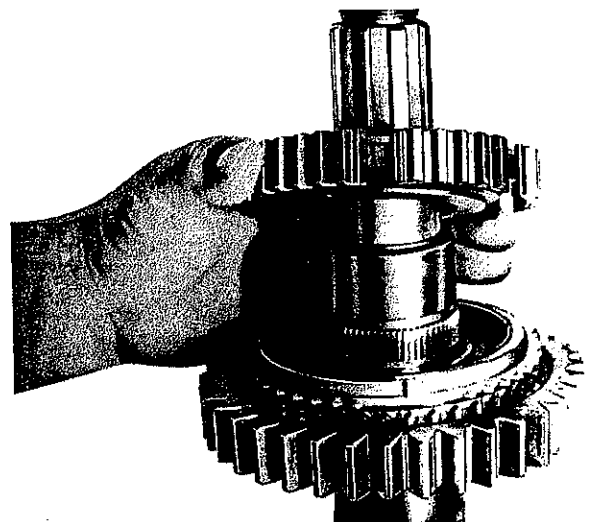

Fig. 25
3. Insert circlip (426) into groove of synchronizer 1st - reverse gear (424) and turn in such a manner that the notched pin (425) can be pushed into hole provided.
4. Heat synchronizer (424) to approx. 80°C and push on splining of shaft as shown in Fig. 25. The recess for the circlip (426) should point upwards.